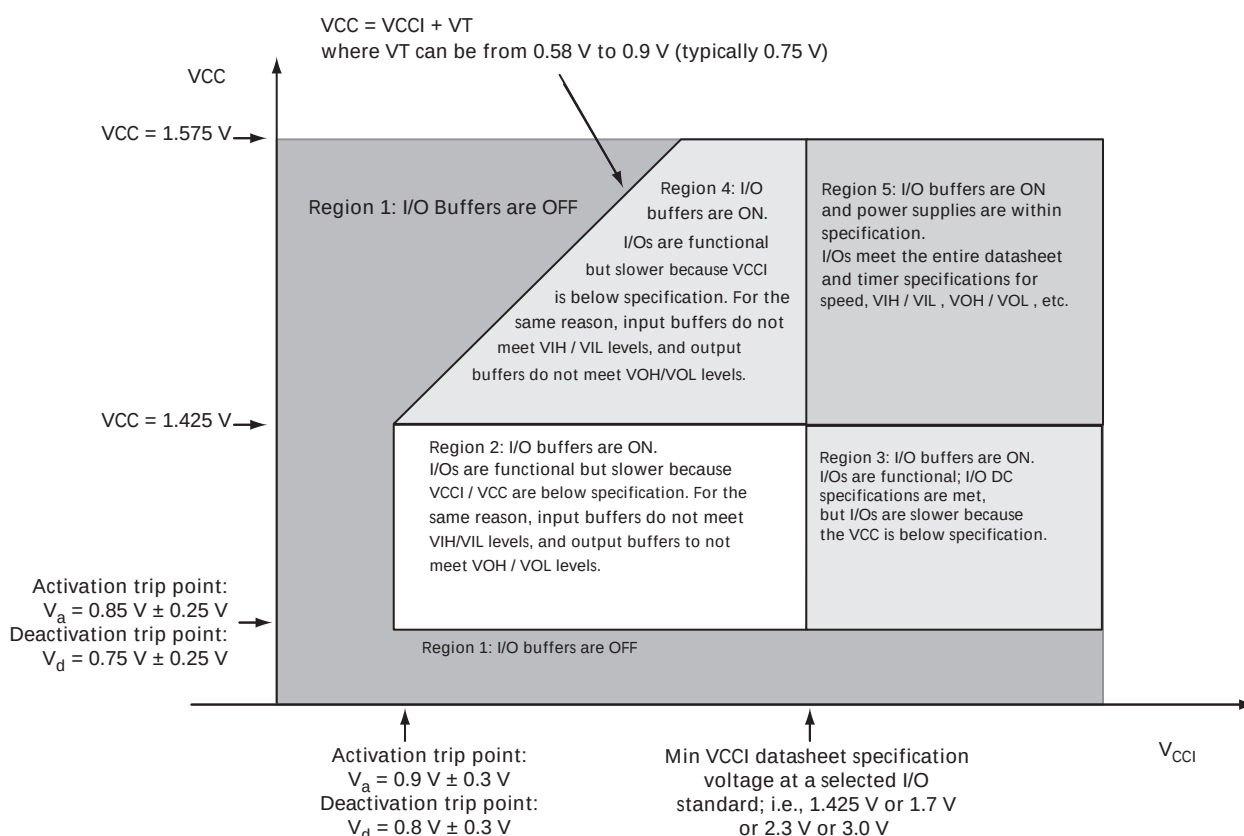
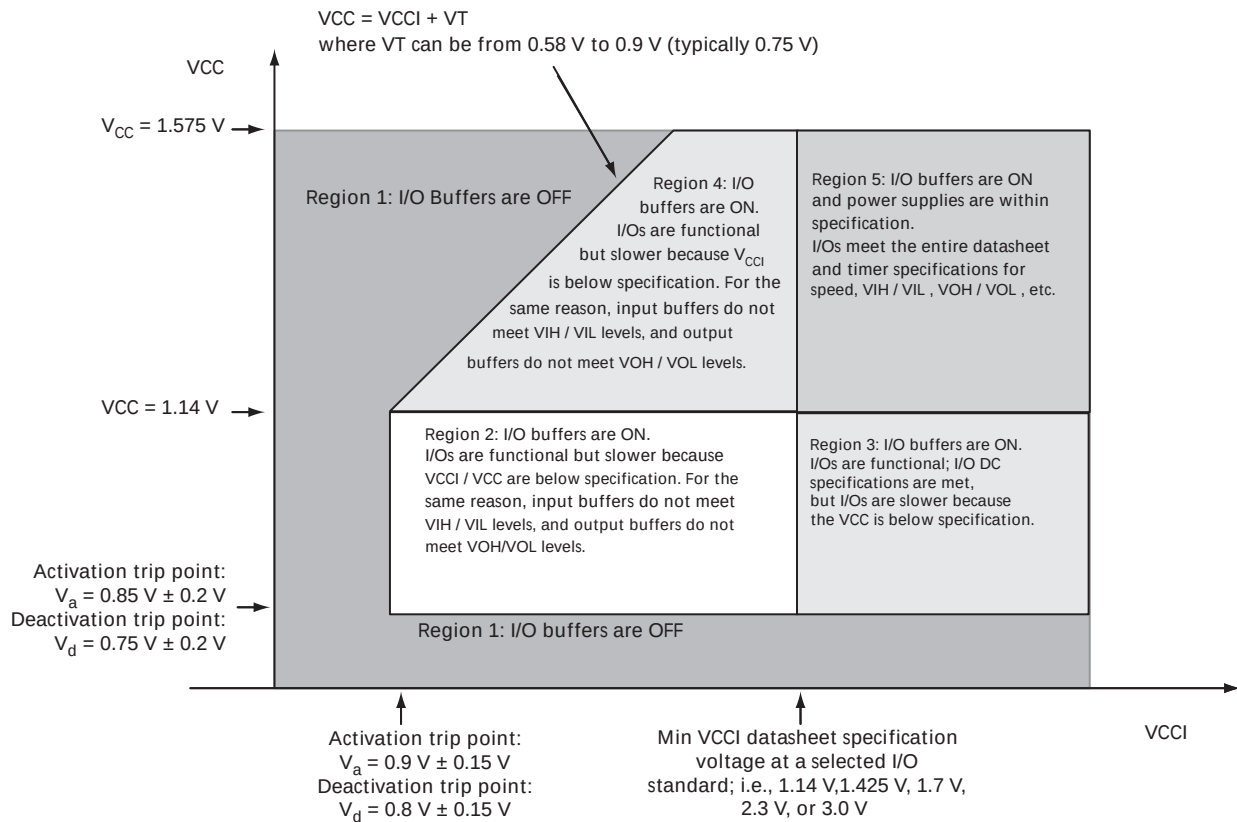

**Figure 2-1 • V5 Devices – I/O State as a Function of VCCI and VCC Voltage Levels**
**Figure 2-2 • V2 Devices – I/O State as a Function of VCCI and VCC Voltage Levels**
Sophisticated power-up management circuitry is designed into every IGLOO nano device. These circuits ensure easy transition from the powered-off state to the powered-up state of the device. The many different supplies can power up in any sequence with minimized current spikes or surges. In addition, the I/O will be in a known state through the power-up sequence. The basic principle is shown in Figure 2-1 on page 2-4.
1. VCC and VCCI are above the minimum specified trip points (Figure 2-1 and Figure 2-2 on page 2-5).
Microsemi recommends using monotonic power supplies or voltage regulators to ensure proper power-up behavior. Power ramp-up should be monotonic at least until VCC and VCCPLX exceed brownout activation levels (see Figure 2-1 and Figure 2-2 on page 2-5 for more details).